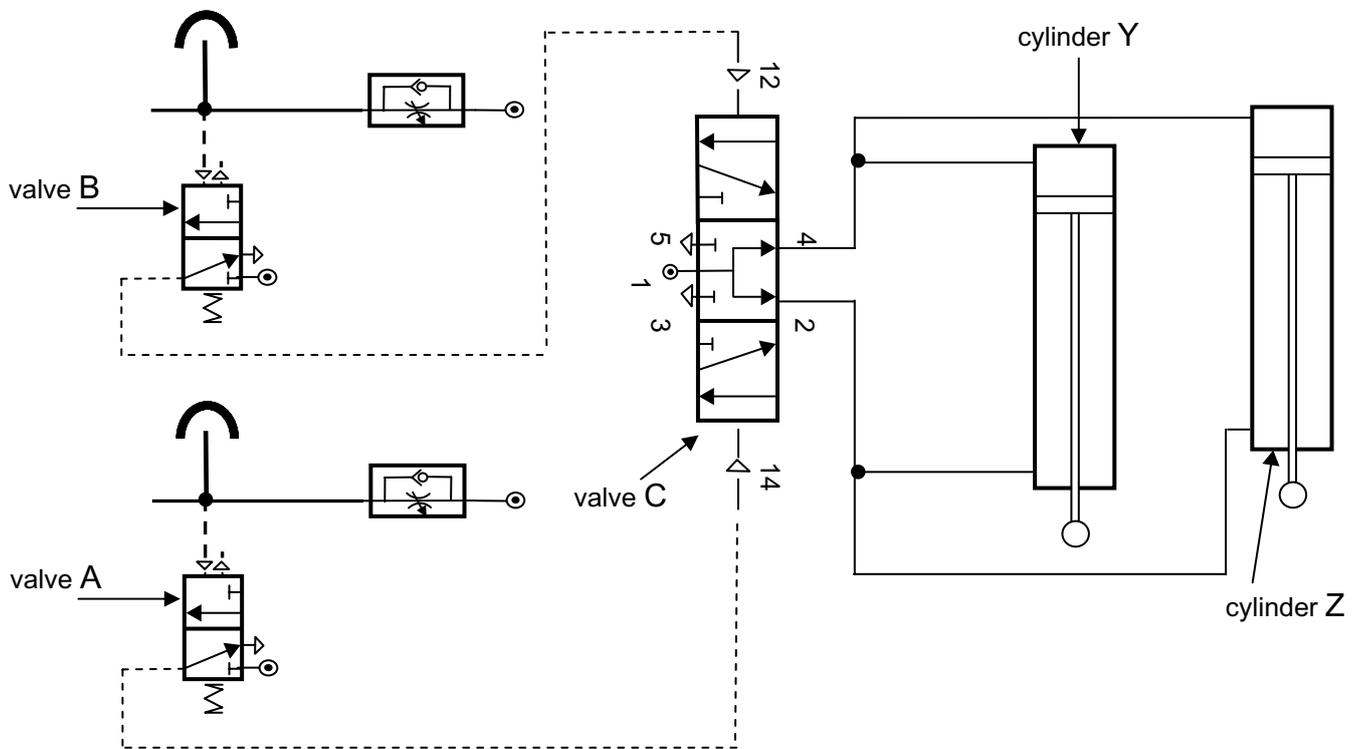

Fig. 4(b)
- (b) (i) Explain how the circuit in **Fig. 4(b)** operates starting from when valve A is activated (your answer should include a detailed explanation of the operation of valve C). [4]